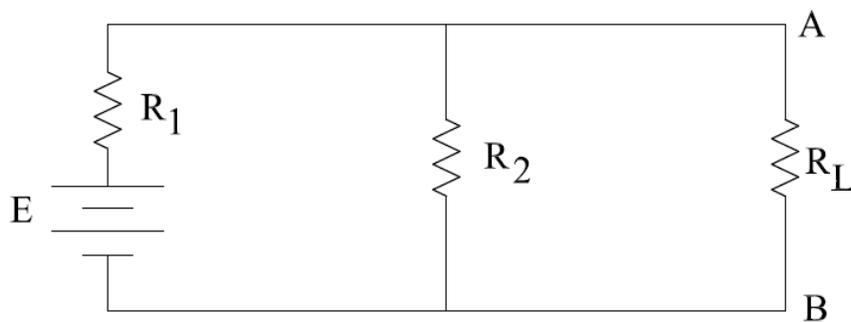

Fig.1(a) The active network with R_L
If it is required to find the current following through load resistance R_L as shown in Fig.1(a), the following steps will be performed:
1. Remove R_L from the circuit terminals A and B and redraw the circuit as shown in Fig1(b). Observably the terminal A-B has become an Open circuit.